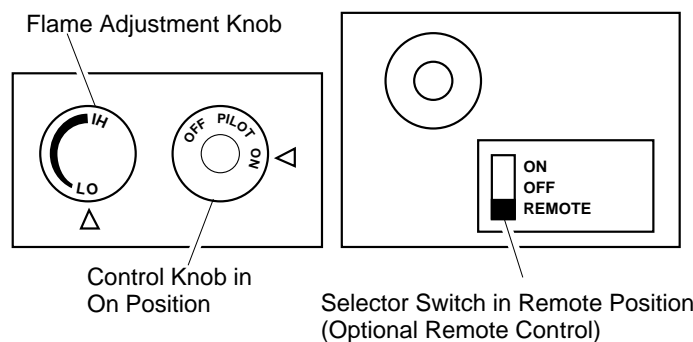

Figure 27 - Setting the Selector Switch, Control Knob, and Flame Adjustment Knob for Remote Operation
1. After lighting, let pilot flame burn for about one minute. Turn control knob to ON position. Adjust flame adjustment knob anywhere between HI and LO. Slide the selector switch to the REMOTE position (see Figure 27). **Note:** The burners may light if hand-held remote ON button was on when selector switch was last turned off. You can now turn the burners on and off with the hand-held remote control unit.